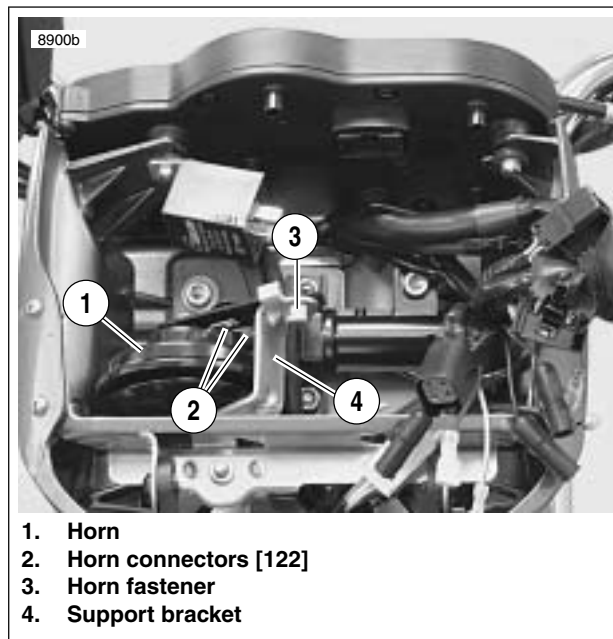
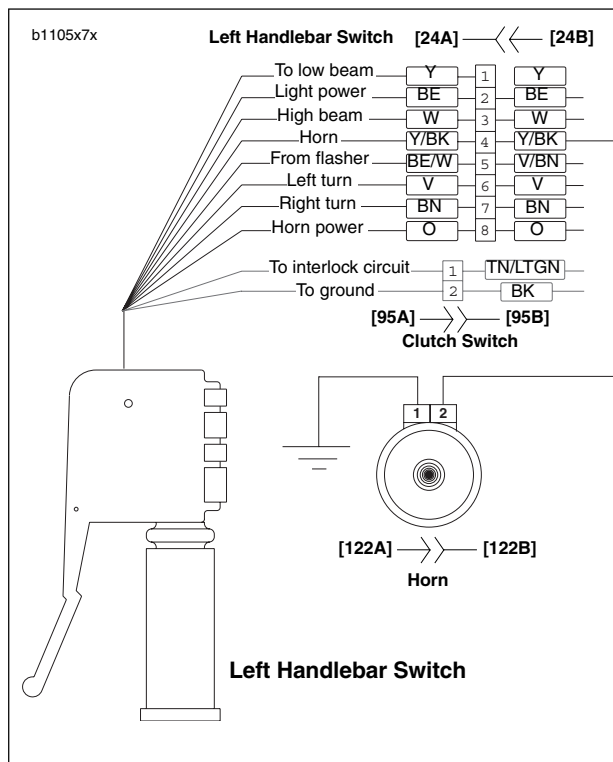

Figure 7-74. Horn Assembly
Figure 7-75. Horn Wiring
4. See Figure 7-74. Remove fastener (3).
5. Remove horn (1) from fairing support bracket (4).
6. See Figure 7-75. Detach Y/BK power wire and BK ground wire from terminal clips on horn.
1. See Figure 7-75. Connect Y/BK power wire and BK ground wire to terminal clips on horn.
2. See Figure 7-74. Attach horn (1) to fairing support bracket (4) using fastener (3). Tighten to 72-96 **in-lbs** (8.1-10.8 Nm).
- a. See Figure 7-75. Remove Y/BK power and BK ground wires from terminal clips.